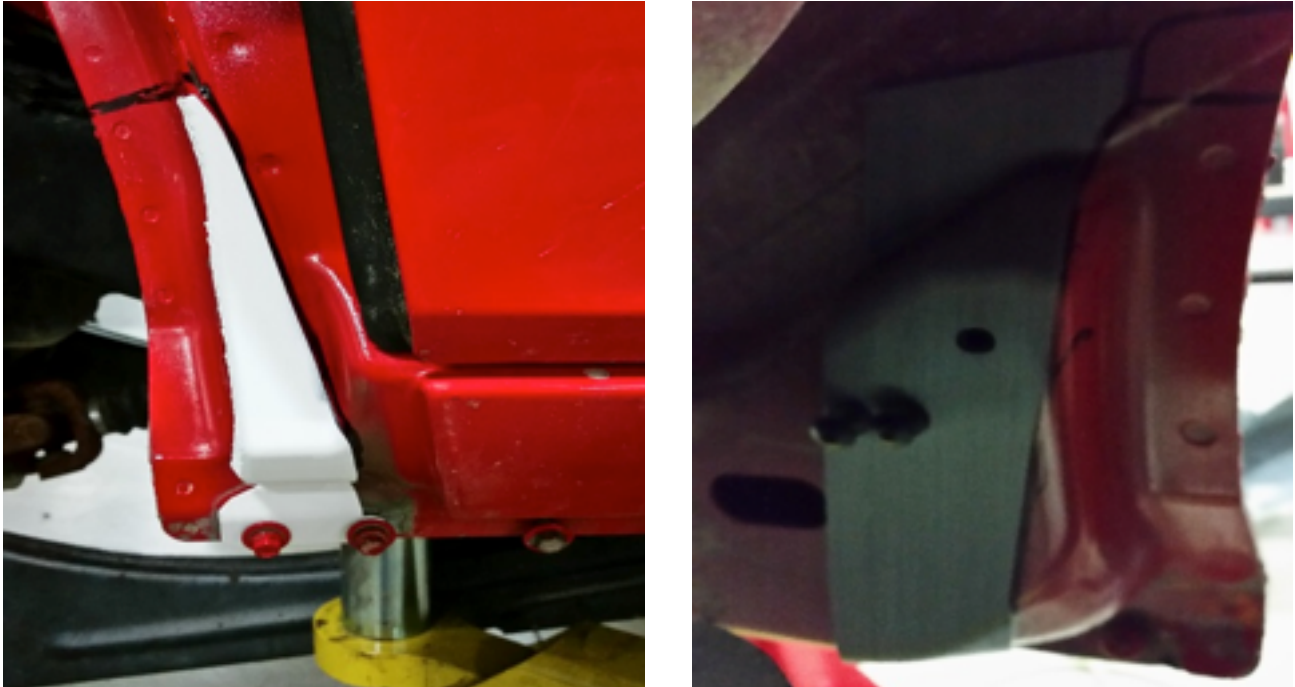

Figure 17 Left: Outside driver side Right: Inside driver side.
- A. Use the provided cutting template to mark where to cut the rocker panel. Templates are to be installed in the factory fender locations. There is an inside and outside template for both driver and passenger sides of the vehicle. Install and mark cutting lines with a permanent marker (fig. 17).